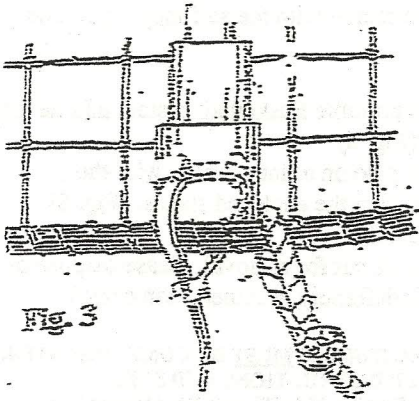

Fig. 3
- 6) Secure the net to the rod ends by wrapping the wire tie around the poly rope at the same position as the colored lead string. Pull the wire ties snug. (Fig. 3)